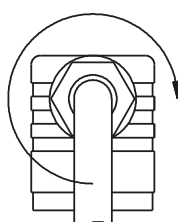

Fig. 5
- ✚ Press the inner part ⑧ into the cable socket ② until it clicks into place.
- ✚ Insert the central screw into the cable socket and tighten the cable gland (→ Fig. 5).